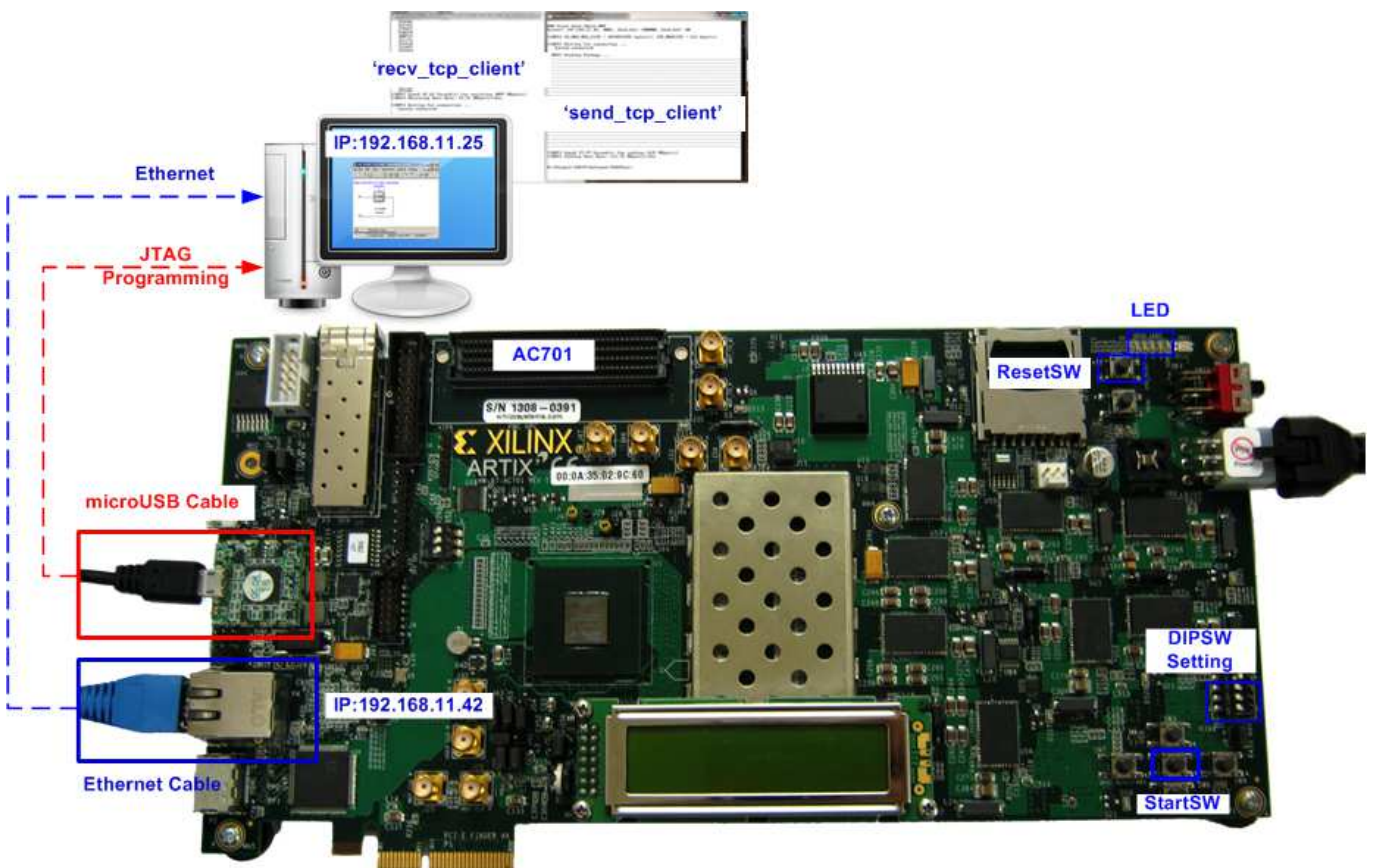
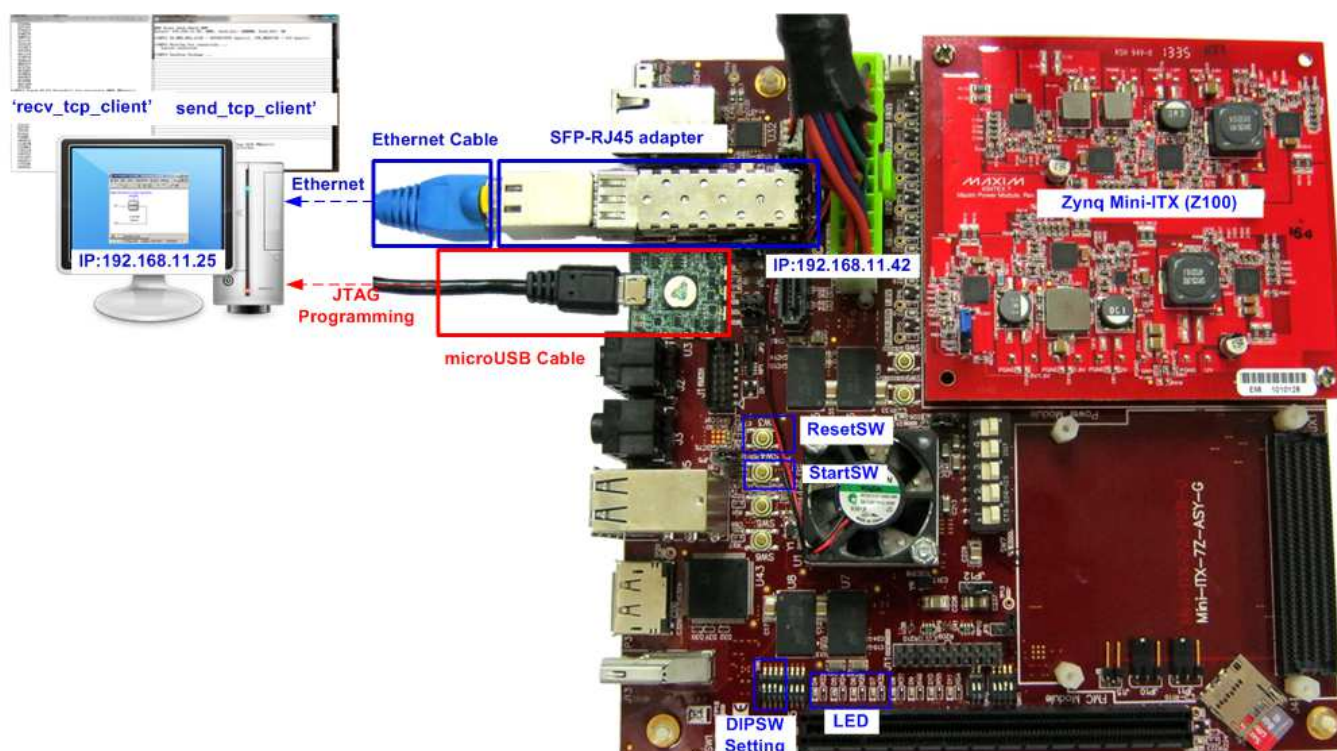

Figure 1-1 TOE1G-IP Demo Environment Setup on AC701
Figure 1-5 TOE1G-IP Demo Environment Setup on Zynq Mini-ITX (Z100 model)
- As shown in Figure 1-1 – Figure 1-5, to run TOE1G-IP standard demo, please prepare